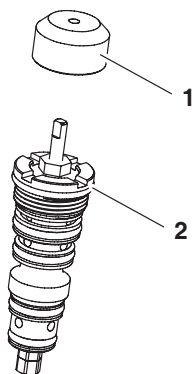

Figure 16 Removing the protective cap from the new cartridge assembly
1. See Figure 16. Remove the protective cap (1) from the new cartridge assembly (2).